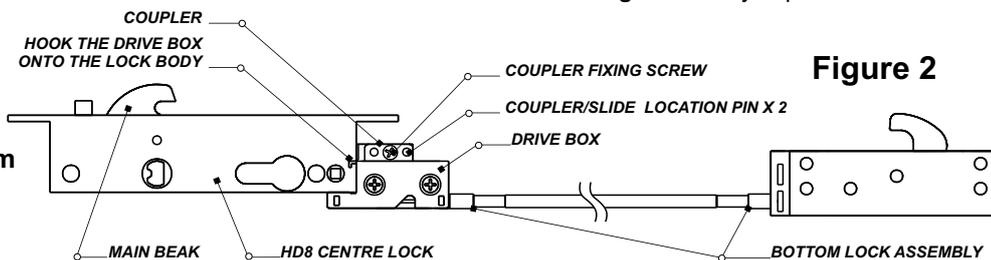

Figure 2
Installing the BOTTOM Lock (Figures 2 & 3)
- 1 Attach the bottom lock assembly **drive box** to the **HD8 centre lock**, ensure the **coupler** fits over the **location pins** (Figure 2).